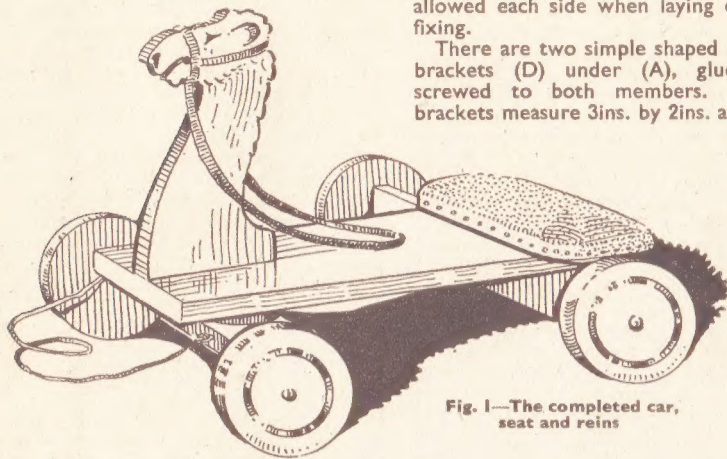

Fig. 1—The completed car, seat and reins
**W**E show on this page a splendid little runabout car for the quite young baby or youngster. We call it the 'Camel Car' because, as will be seen from Fig. 1, it has a realistic figure-head of the camel. The car can be used as a pull-along toy, with baby sitting on the padded seat and the big brother to pull it along.
A plan of the toy is given in Fig. 1, and some measurements are included which will help in the assembly. In Fig. 3 we see a side view showing the position of the various pieces in conjunction with the plan view. The piece (A), forming as it were the foundation piece, will first be marked and cut. It is a plain oblong measuring 16ins. by 4ins. by  $\frac{3}{4}$ in. thick, and at the front end a mortise will be cut in it 2 $\frac{1}{2}$ ins. long by  $\frac{3}{4}$ in. wide to take the head of the camel.